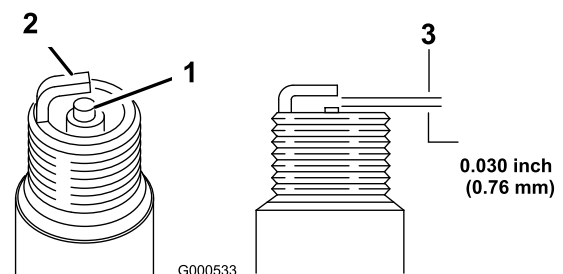

Figure 28
5. Set the gap on the plug to 0.76 mm (0.030 inch) as shown in Figure 28.